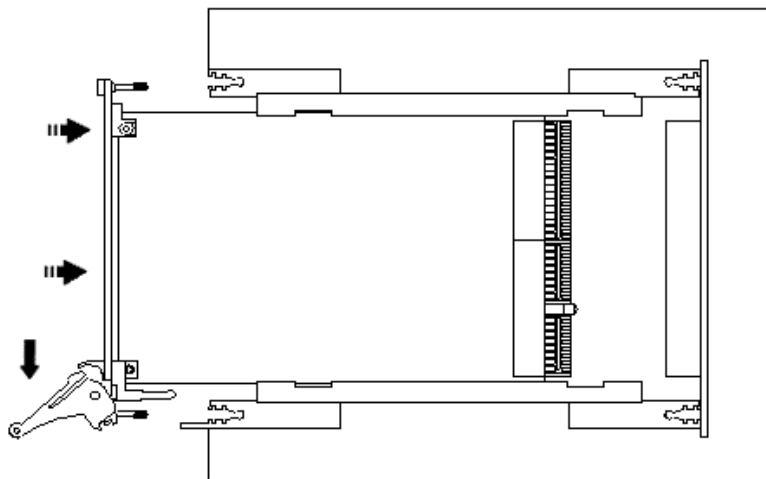

Figure 3-2: Ejector handles position during module insertion
5. Carefully slide the PXI board to the rear of the chassis, make sure that the ejector handles are pushed **out** (as shown in Figure 3-2).